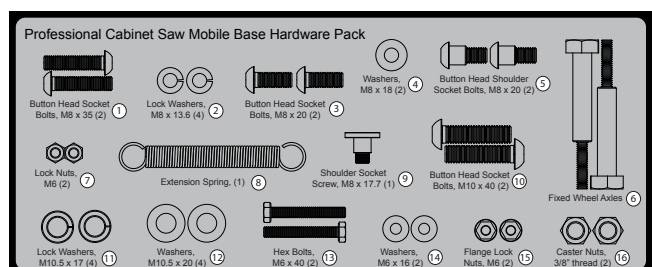

Fig. 2
2. Locate all of the mobile base components shown on page 1. All of the hardware needed to install the mobile base is located on the hardware pack (see Fig. 2). In order to easily identify the hardware used in each of the following steps, the different pieces of hardware are numbered on the hardware pack and in the figures. If you are missing the hardware pack or any of the other mobile base components, call the SawStop Service Department at 503-582-9934 for replacements.